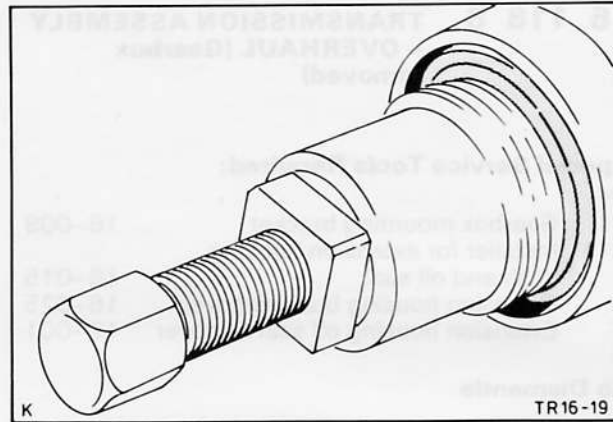

Fig. 22. Remove seal with Special Tool No. 17-001
7. Remove extension housing oil seal with Special Tool No. 17-001, Fig. 22.